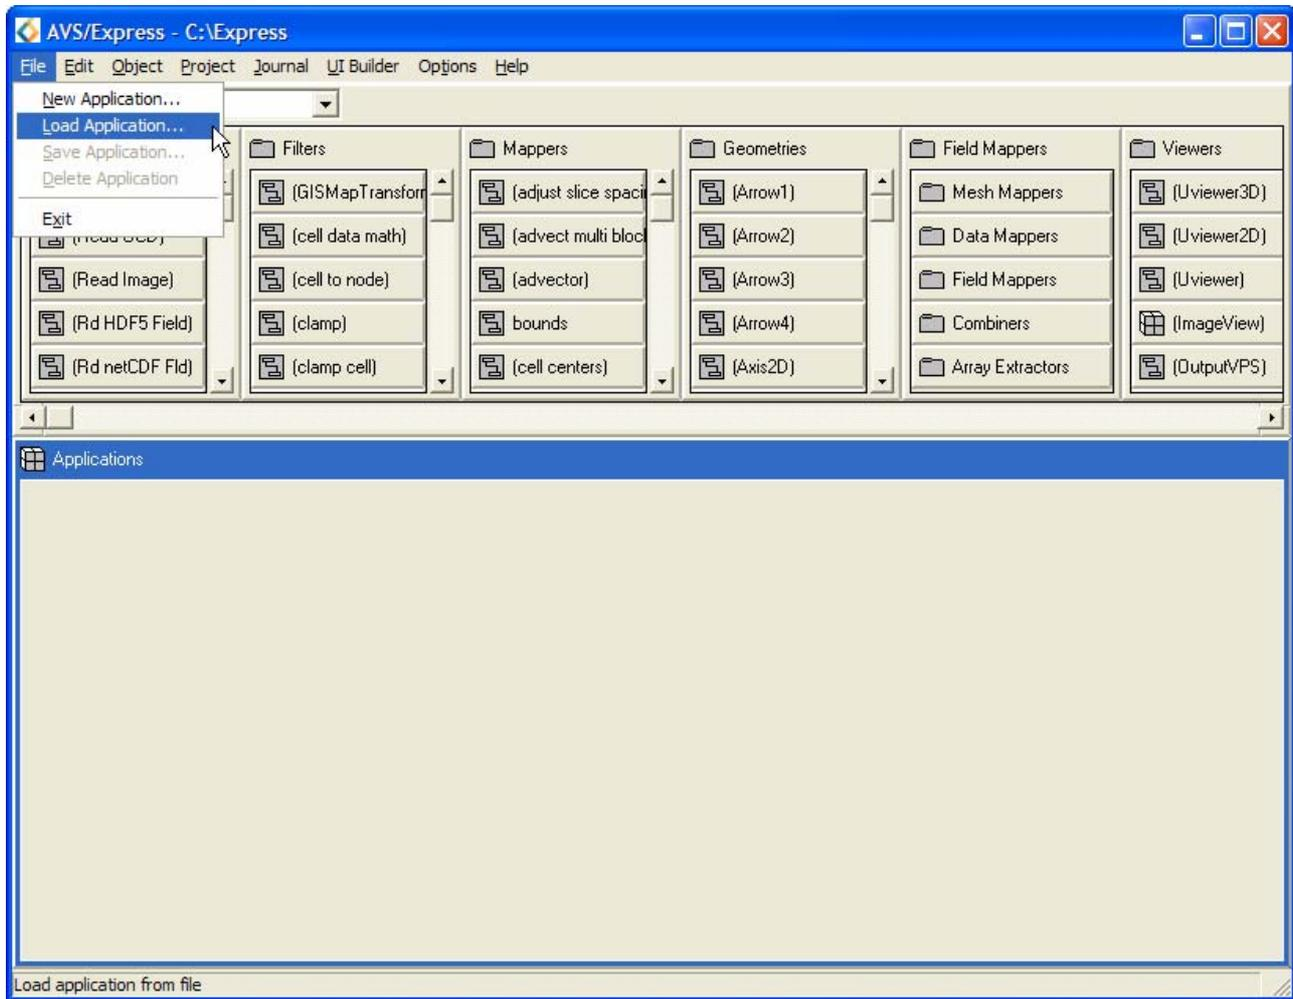

Figure 2.21: **Load Application**
- To load an application network select the **Load Application** command from the pull-down **File** menu. A file browser will appear showing the files in the current working directory (Figure 2.21).